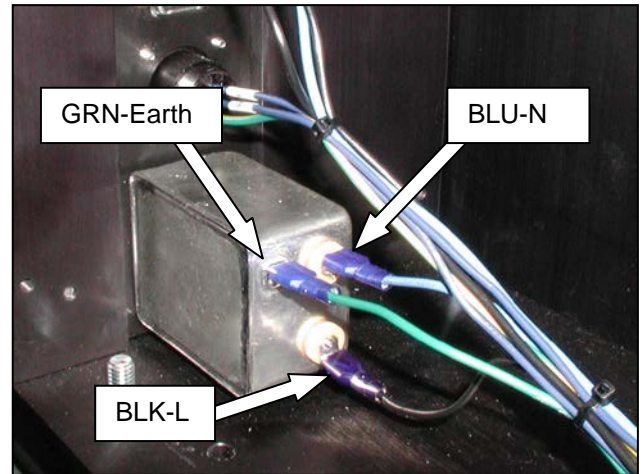

Figure 3-43. Wire colors and locations
9. Reconnect spade connectors to the Line Filter (Figure 3-43).